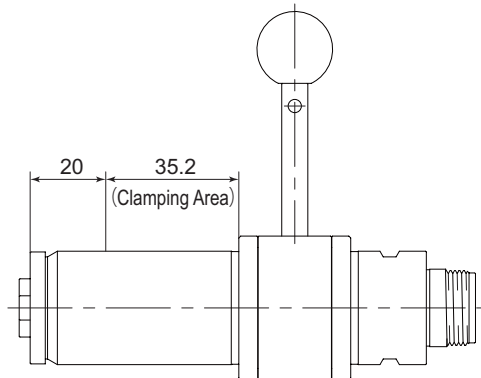

Fig. 14
① When mounting a spindle, refer to the Clamping Area etched on the spindle (Fig. 14).